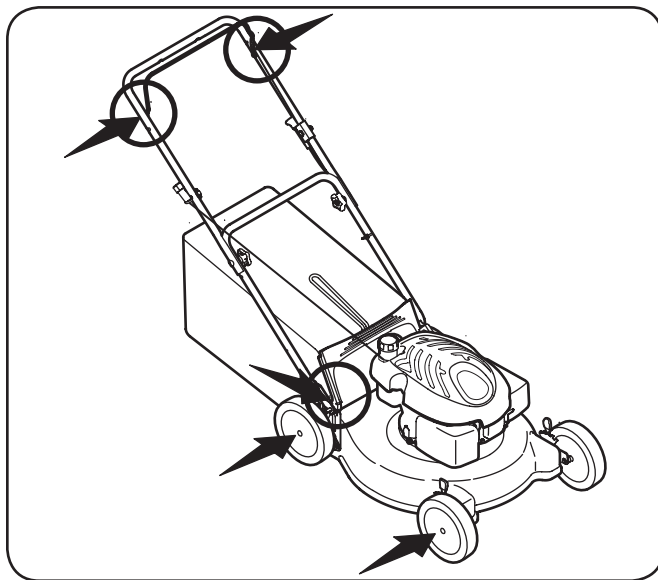

Figure 6-1
1. Lubricate pivot points on the blade control at least once a season with light oil. This control must operate freely in both directions. See Fig. 6-1.
2. Lubricate the wheels at least once a season with light oil (or motor oil). If wheels are removed for any reason, lubricate surface of the pivot arm and inner surface of the wheel with light oil. See Fig. 6-1.
3. Lubricate the torsion springs and pivot points on the rear discharge door periodically with light oil to prevent rust. See Fig. 6-1.